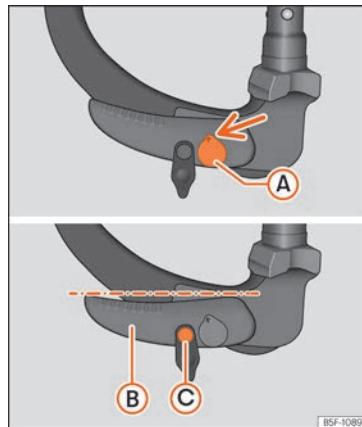

Fig. 294 Reserve position: position of the lever and the release bolt.
- Key (A) »» Fig. 294 is in the released position (the part of the key with the holes is facing upwards).
- Lever (B) »» Fig. 294 is in the bottom position.
- The release bolt (C) »» Fig. 294 can be moved.